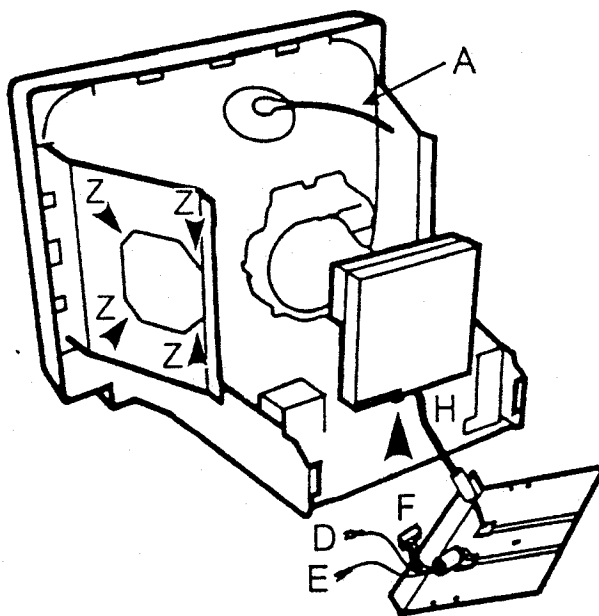

Figure 3
1. Disconnect the EHT lead, A, from the CRT, see figure 3.
2. Remove the tube base pcb from the CRT, see figure 3.
6. Remove the earth connections from the tube base screen, D and E, see figure 3.
7. Disconnect the video cable, F, from the tube base panel, see figure 3.
8. Unclip cable H to the tube base panel, see figure 3.
12. Remove the 4 screws holding the dynamic focus module (if fitted), Z, see figure 3.
Sync source selection is made directly by the uC, as is the separation of the V sync from the combined H+V sync (which is derived via a sync separator on the interface from the Sync-on-green signal) of the BNC input (see Fig 3).